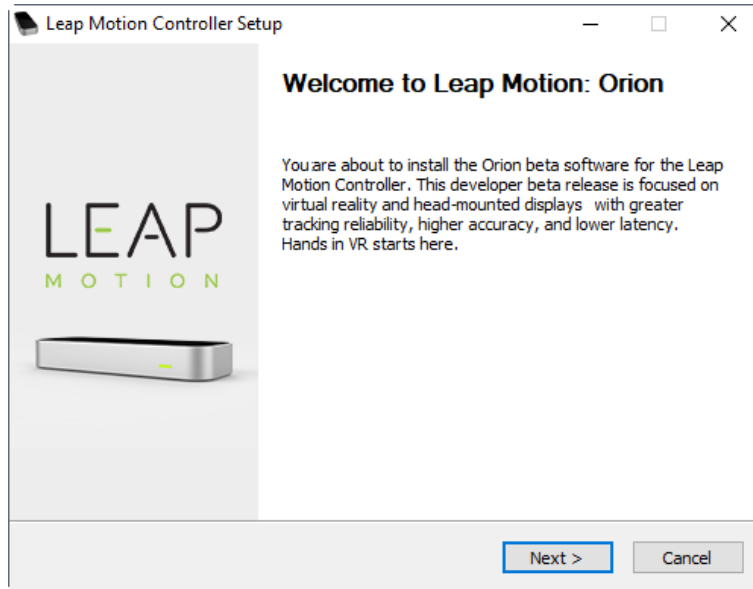

Figure 5.95 The Leap Motion Installation Interface
- Step 2** Install the Leap Motion driver software by following the on-screen instructions, as shown in Figure 5.95.